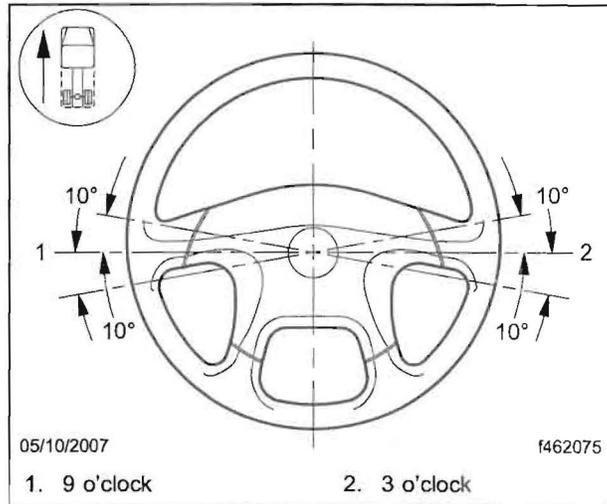

Fig. 8, Steering Wheel Centered
27. Make sure that the steering wheel is within 10 degrees of center as shown in **Fig. 8**. If it is not, remove and center the steering wheel, as follows.